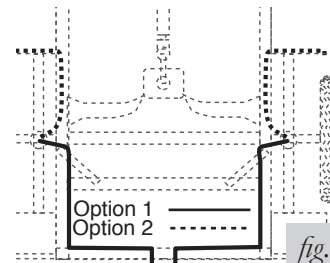

fig. 11
- Route the air line along the frame to the air fitting on the air spring (fig. 11). Keep AT LEAST 6" of clearance between the air line and heat sources, such as the exhaust pipes, muffler, or catalytic converter. Avoid sharp bends and edges. Use the plastic tie straps to secure the air line to fixed, non-moving points along the chassis. Be sure that the tie straps are tight, but do not pinch the air line. Leave at least 2" of slack to allow for any movement that might pull on the air line.